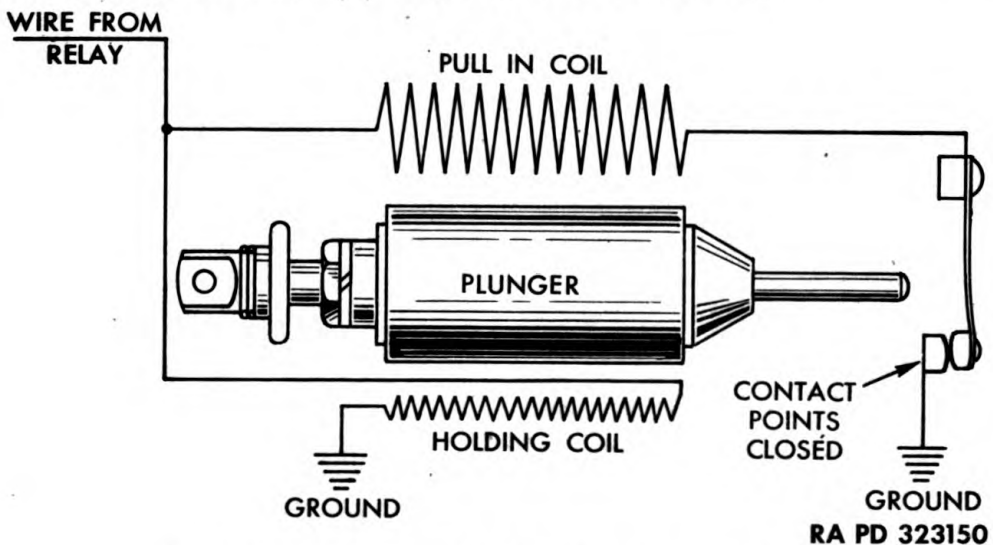
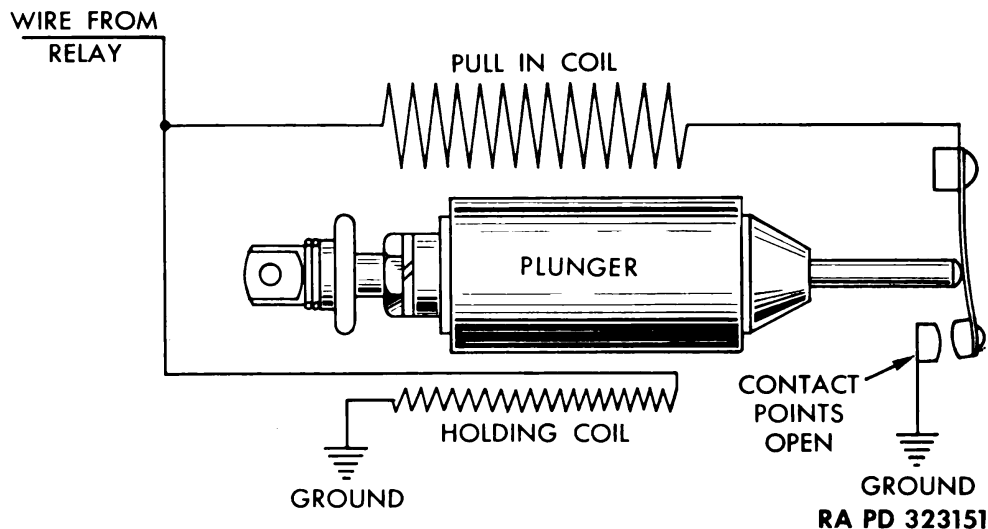

Figure 151 – Solenoid Wiring Diagram – Plunger Out
Figure 152 — Solenoid Wiring Diagram — Plunger In
b. The solenoid consists chiefly of two concentric coils of insulated wire, a movable plunger, and a small breaker switch. The outer coil winding is for pulling in the plunger only (called a "pull-in" coil) and the inner winding is for both pulling in and holding the plunger (called a "holding" coil). When the ignition switch is turned off, no current is delivered to the solenoid. The plunger is out and contact points are closed (fig. 151). When the ignition switch is turned on, current from the 12-volt electric system flows to both the outer and inner coil windings, pulling the plunger in. When the plunger has almost reached its inner position, the plunger tip separates the contact points, opening the electric circuit to the outer winding (pull-in coil). This leaves the inner coil (holding coil) to keep the plunger all the way in (fig. 152). The holding coil is capable of operating indefinitely without overheating, while the pull-in coil would soon overheat if energized for more than a few seconds. A relay is used in conjunction with the solenoid to carry the 29-ampere current required to operate the solenoid. After the solenoid has operated, and the plunger is all the way in, only .75 amperes are required to hold it there.